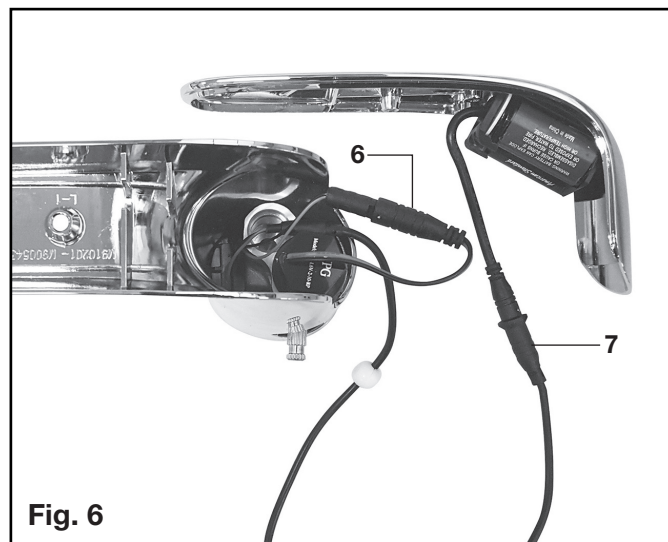

Fig. 6
FOR FAUCETS PURCHASED AFTER OCTOBER 2019 (FIG. 6)
1. Remove COVER SCREW (1) and lift COVER (15) off.
2. Disconnect SENSOR CABLES (6) and (7) from the BATTERY and SOLENOID VALVE. (Fig. 6)
1. Remove the COVER SCREW (1).
2. Remove the COVER (15).
3. Disconnect the BLACK POWER SUPPLY CONNECTOR (7) and reconnect. Fig. 6.
4. After reconnecting the BLACK POWER SUPPLY CONNECTOR (7), a yellow light on the sensor will begin blinking 10 times.
9. Reassemble the COVER (15) and secure it with COVER SCREW (1).